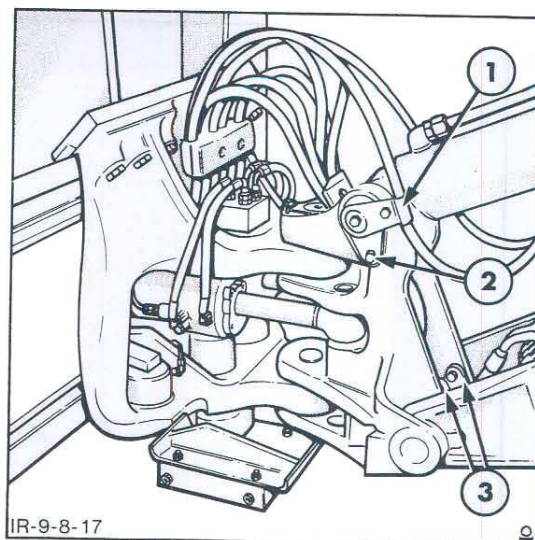

Figure 18
NOTE: On sideshift Units the pivot pin retaining bolts are located on the inner section of the boom, Figure 18.
5. Disconnect the bucket cylinder hoses at the boom, Figure 18 and cap the hoses and tubes.